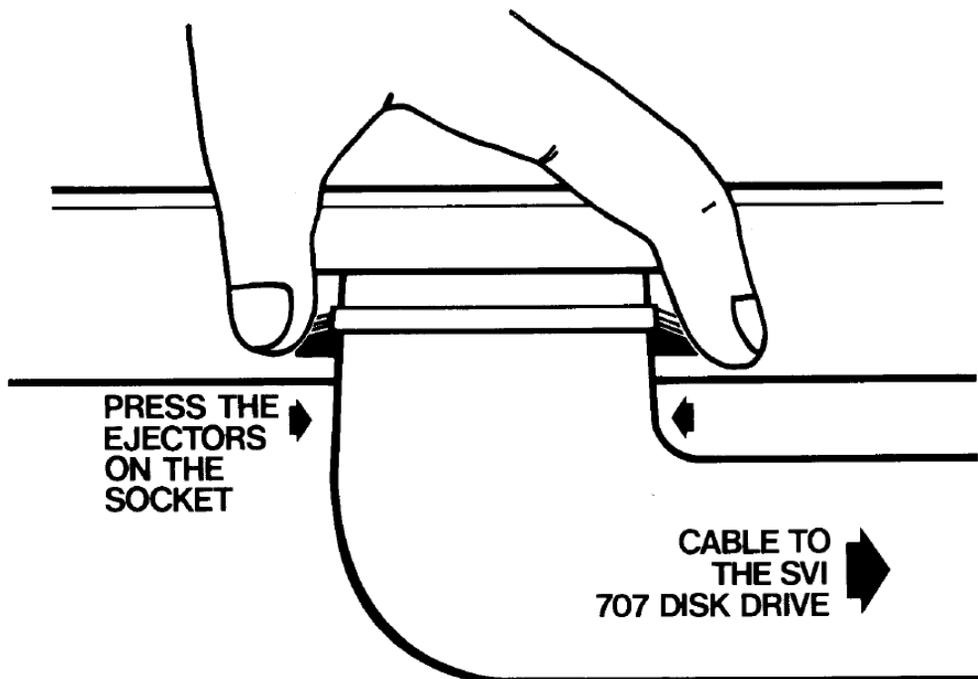

Figure 2 Closing the ejectors
| Figure 2 | |
Step 3. Close the ejectors on the socket to securely fasten the connector and the socket together (see figure 2).